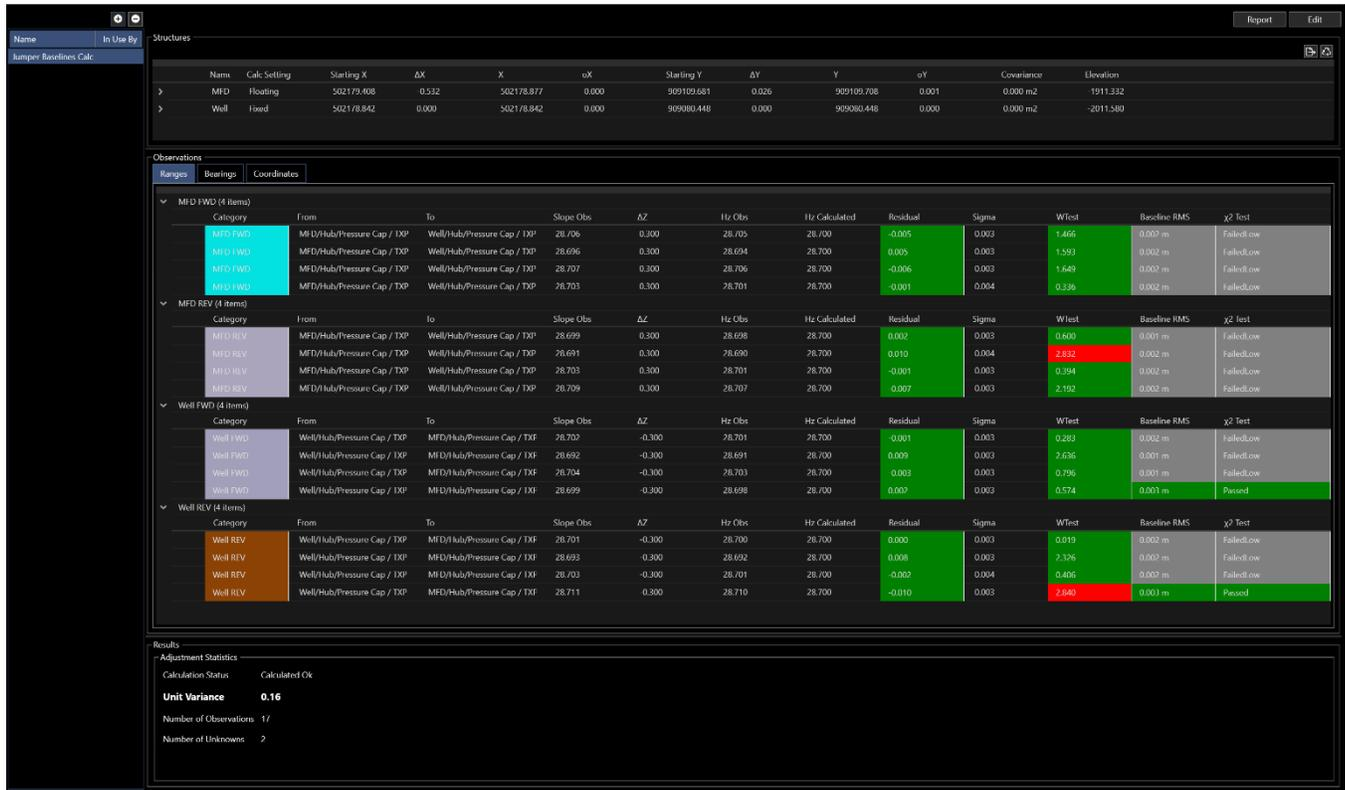

FIGURE 100 RANGE CALCULATION RESULTS VIEW – RANGES TAB
12. Click Finish. This will add the range calculation result to list that can be viewed and edited if required, see Figure 100.
The structures section gives the calculation results for each structure in the calculation. The structures can be expanded to see the results at each transponder end point, see Figure 100.